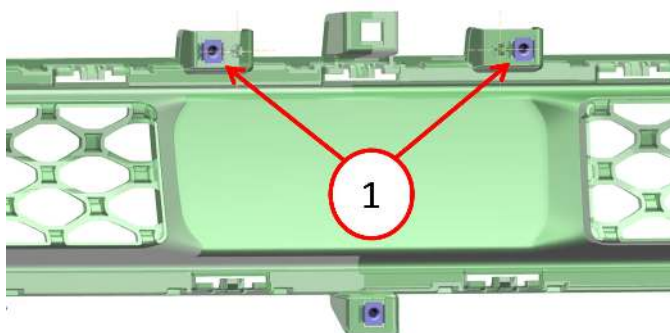

Fig. 2
4. Install two flat washers while installing the top two ACC module bracket retainers on the front fascia Fig. 2.